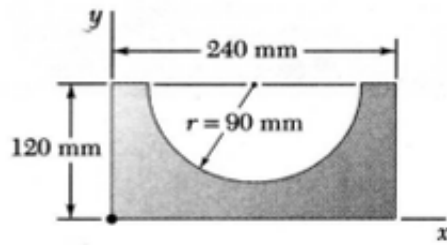

Figure 2
- (A) Find diameter of a solid cylindrical shaft is to transmits 300kW power at 100 r.p.m if shear stress is not to exceed 80 N/mm^2 . [07]
- (B) Determine the moment of inertia of the I-section about x-x axis passing through the C.G. of cross section as shown in Figure 2. [07]